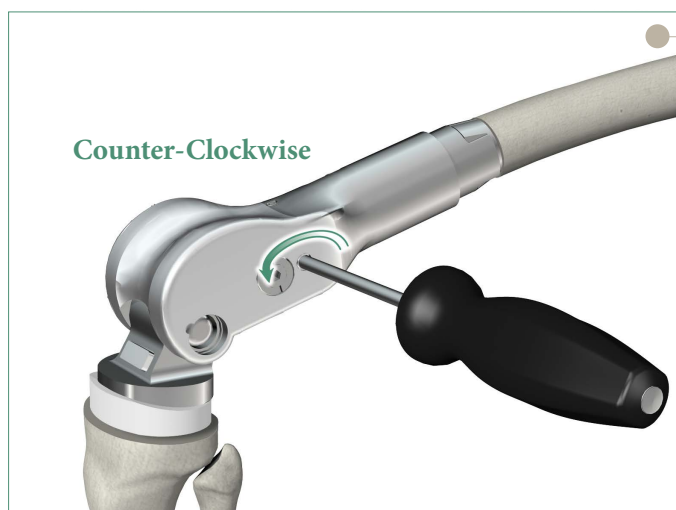

Figure 36
- Once exposure to the device has been gained on the lateral side, to unlock the expandable prosthesis, insert the smaller hex screwdriver into the hole indicated and turn counter-clockwise (**Figure 36**). Do not bend the screwdriver. Ensure that the smaller hex screwdriver is fully seated in the hole prior to unlocking the device.